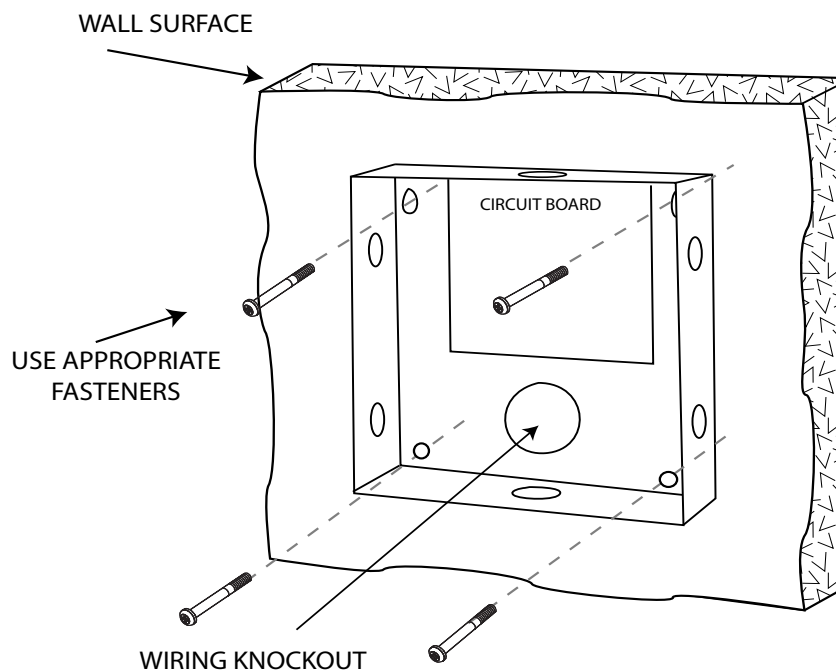

FIGURE 3
7. Install two bottom mounting screws (see figure 3).
When power is first applied, or when the reset button is pushed (see Figure 3) the LED on each Smart Reader will flash red and green alternately. While the LED's are flashing, present an Access Card with the proper facility code to one of the readers and remove it (note LED turns solid green for about 1 second and the beeper beeps to indicate that the card has been read). The NOVA.16 will "remember" the facility code and retain it until reprogrammed. It is not necessary to present the access card to the second reader since it is automatically set for both passageways. After setting the facility code, wait for the LED to stop flashing before attempting to use the reader.